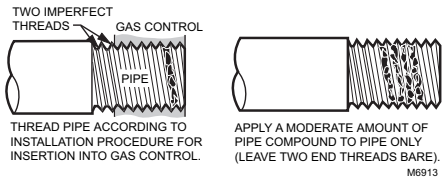

Fig. 3. Use moderate amount of pipe compound.
4. Apply a moderate amount of good quality pipe compound (do not use Teflon tape) to pipe only, leaving two end threads bare. On LP installations, use compound resistant to LP gas. See Fig. 3.